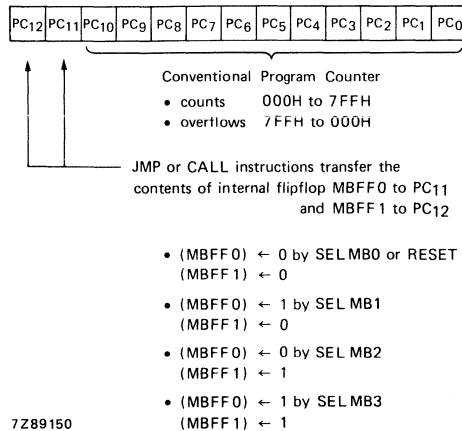

Fig. 22 Program counter.
**Program counter** (see Fig. 22)
The 13-bit program counter is able to address 8 K bytes of ROM. The arrangement of the bits is shown in figure 22. During an interrupt routine PC11 and PC12 are forced to logic 0. All 13 bits are saved in the stack during CALL and interrupt routines.